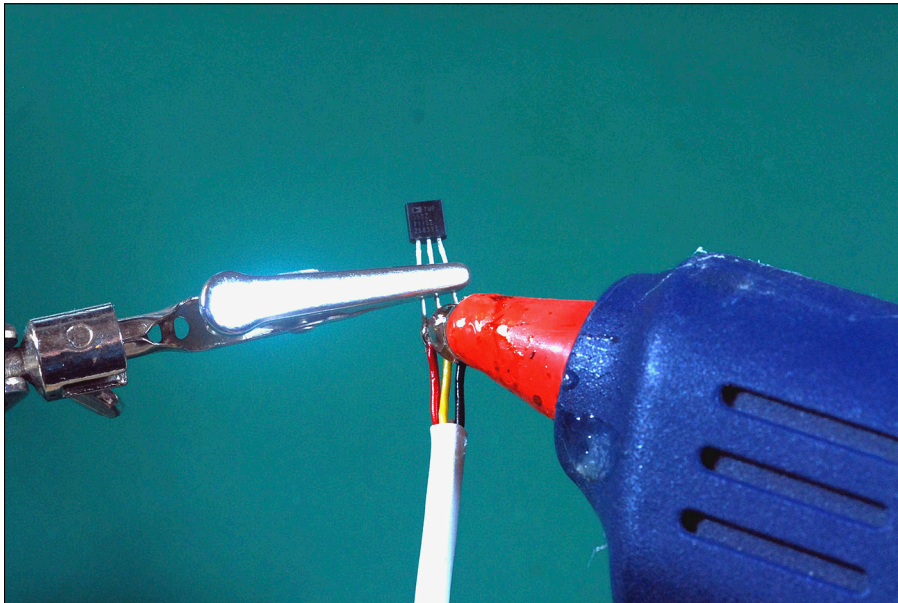

Figure 12-7:
8. For each sensor, use a dab of hot glue to keep the legs from touching, as shown in Figure 12-7.